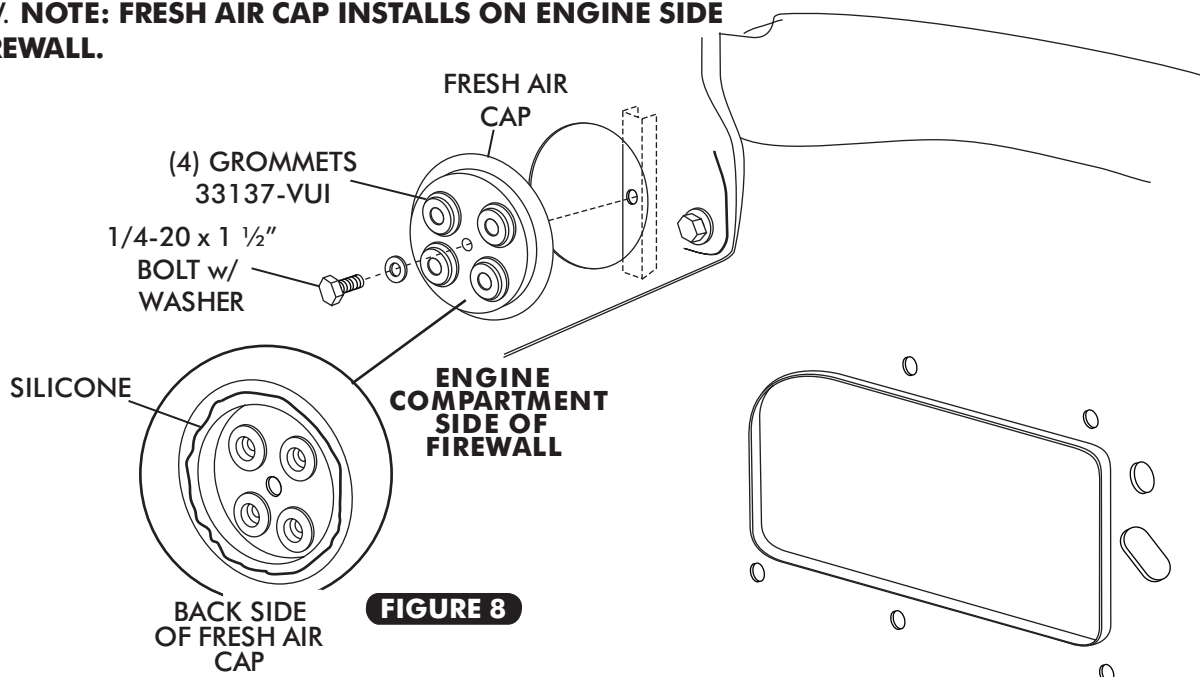

FIGURE 8
- ☐ INSTALL (4) GROMMETS IN FRESH AIR CAP. SEE FIGURE 8 BELOW.
- ☐ APPLY A 1/4" BEAD OF SILICONE AROUND THE BACK SIDE OF THE FRESH AIR CAP AS SHOWN IN FIGURE 8 BELOW.
- ☐ ATTACH FRESH AIR CAP TO FIREWALL USING A 1/4-20 x 1 1/2" BOLT AND WASHER, SEE FIGURE 8 BELOW. **NOTE: FRESH AIR CAP INSTALLS ON ENGINE SIDE OF FIREWALL.**